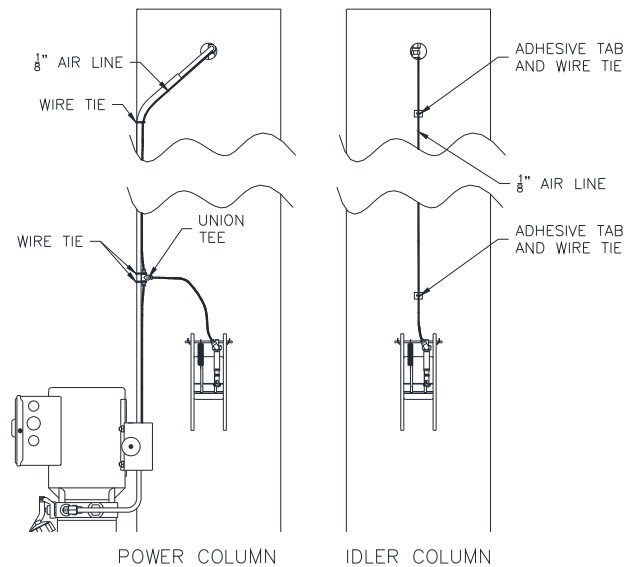

**Fig. 13B-Hose Connection**
- 23) Hoses should connect to cylinders with a 90 degree elbow rotated 25 degrees upward and be routed thru hose guide (Fig. 13B).